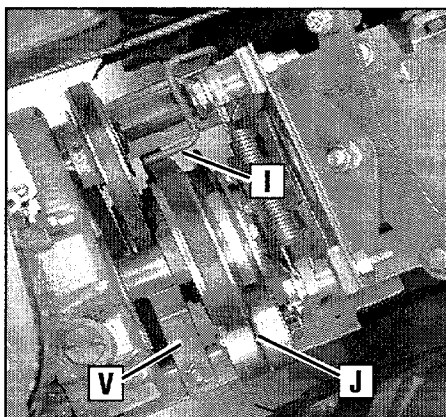
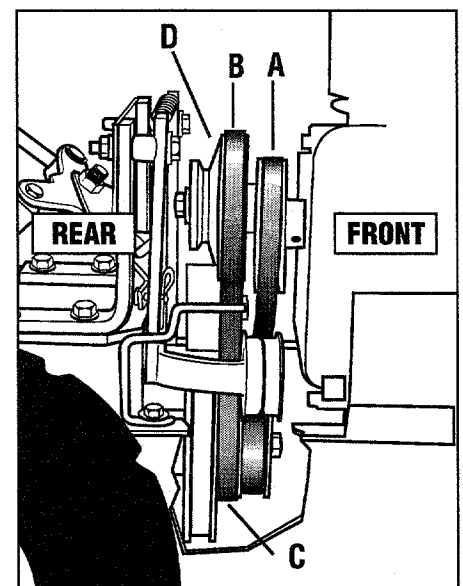
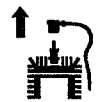
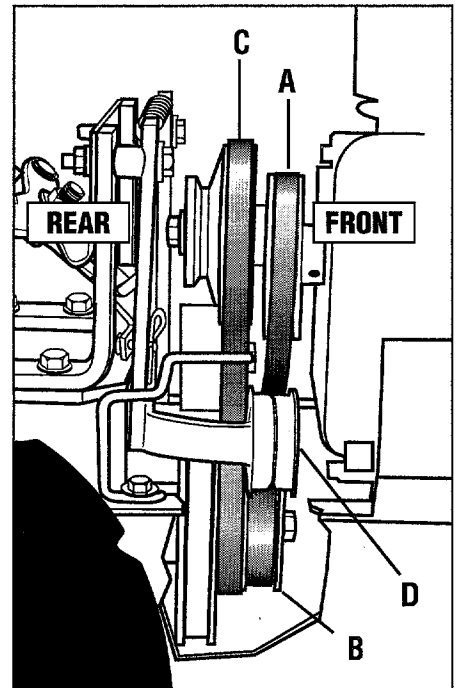

Figure 5-12: Top view of belts and pulleys.
Figure 5-16: Belt drive system.
Figure 5-17: Install forward drive belt over rear of engine forward pulley and bring lower half of belt down and in front of transmission pulley.
Figure 5-18: Removing and installing reverse belt.
8. Replace the forward drive belt in the High speed groove (groove closest to engine) or the Low speed groove (rear-most) groove of the engine drive pulley and in the matching groove of the transmission pulley. Be sure the belt is to the inside of the wire formed belt guide (I, Figure 5-12) and to the inside of the forward drive idler pulley (J).
This model has two forward speeds (High and Low) and one reverse speed. The forward engine pulley (D, Figure 5-16) has two grooves for the two forward speeds. The reverse engine pulley (A, Figure 5-16) has one groove for the one reverse speed. The transmission pulley (C, Figure 5-16)
2. Remove the reverse drive belt (A, Figure 5-16) by following the "Removing the Reverse Drive Belt" instructions in this section.
3. Move the forward drive belt (B, Figure 5-16) completely off the engine forward drive pulley (D).
4. Slip the forward drive belt completely off the transmission drive pulley (C, Figure 5-16) by moving it to the front of the pulley.
2. Slip the forward drive belt down between the rear of the engine forward drive pulley (D, Figure 5-16) and feed the bottom half in between the engine and transmission pulleys (see Figure 5-17). Be sure that the belt is to the inside of the forward idler pulley and forward belt guide (see J and I, Figure 5-12).
3. Slip the forward drive belt down and over the front of the transmission pulley (C, Figure 5-16). NOTE: For additional working room, loosen the reverse belt guide (V, Figure 5-12) and twist it out of the way.
4. Put the lower half of the belt into the High speed groove (middle groove) or the Low speed groove (rearmost groove) of the transmission pulley (C, Figure 5-16).
5. Put the upper half of the belt in the High speed groove (groove closest to engine) or the Low speed groove (rearmost groove) of the engine forward drive pulley (D, Figure 5-16)e.
IMPORTANT: Make sure that the forward drive belt is to the inside of the wire belt guide (I, Figure 5-12) and the forward idler pulley (J, Figure 5-12).
3. Slip the reverse belt off the engine reverse pulley (A, Figure 5-18). If necessary, work the belt off the pulley with your left hand while pulling the engine recoil starter rope with your right hand.
4. Push the upper half of the reverse belt downward to create slack in the belt. Then reach underneath the transmission and slip the belt off the front of the transmission pulley (B, Figure 5-18).
5. Pull the belt up and past the engine reverse pulley (A, Figure 5-18).
1. Slip the reverse belt down between the engine reverse pulley (A, Figure 5-18) and the engine forward drive pulley (C).
2. Loop the bottom half of the belt over the front of the transmission pulley (B, Figure 5-18) and seat the belt in the front groove of the pulley.
3. Place the belt to the inside of the reverse idler pulley (D, Figure 5-18) and the reverse belt guide (V, Figure 5-12). Then slip the upper end into the groove of the engine reverse pulley (A, Figure 5-18).
4. If the reverse belt guide (V, Figure 5-12) was loosened previously, center the belt guide on the belt and tighten the mounting screw securely.